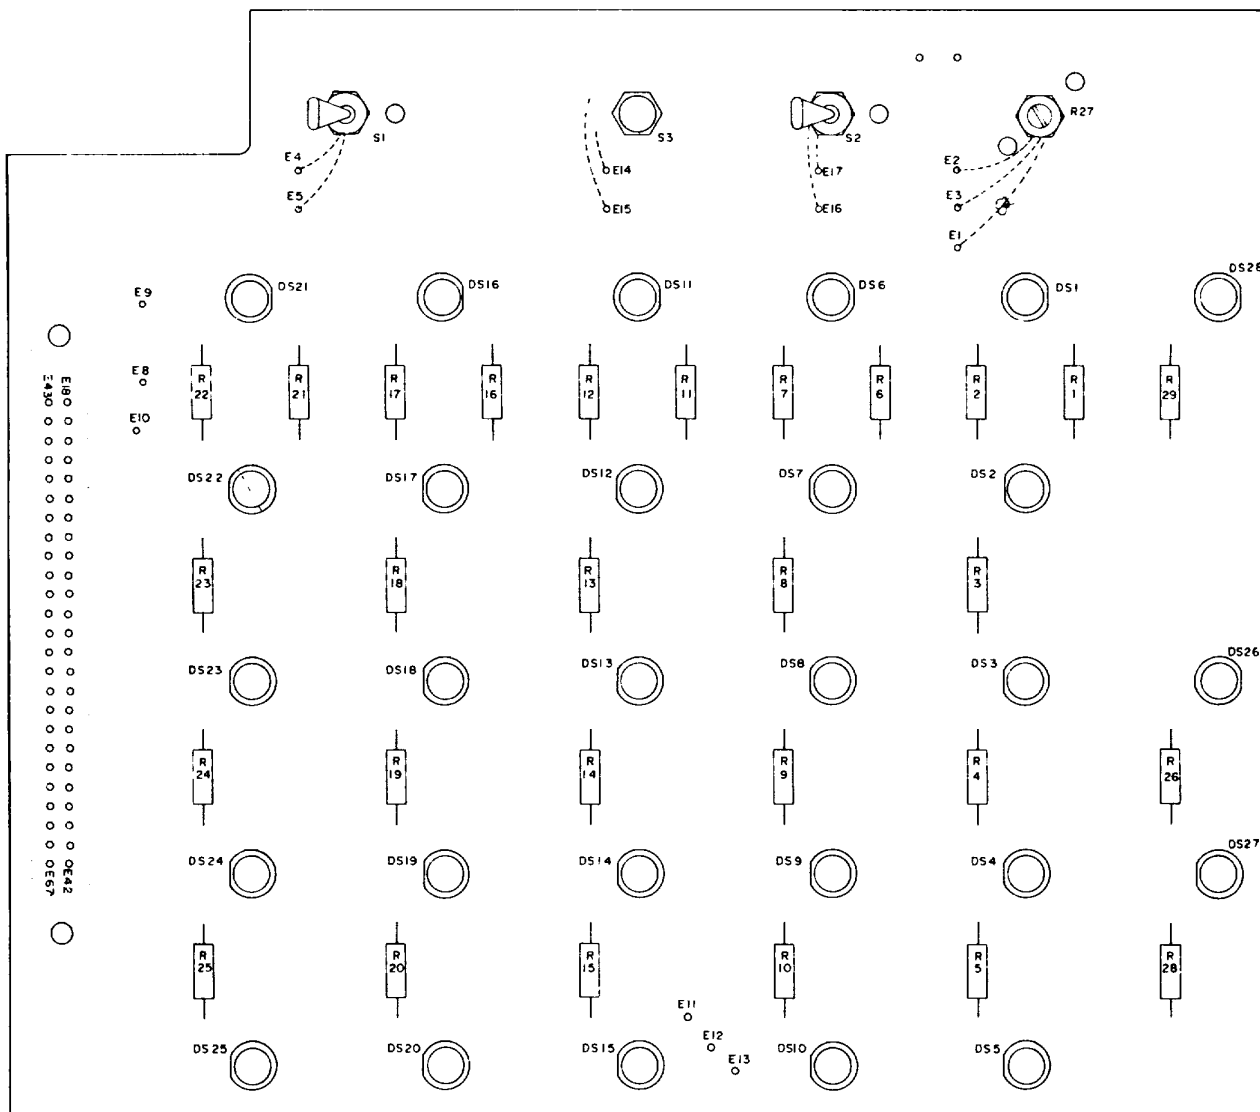

Figure 8-2. LED Display Circuit Card Assembly, 4A1 Parts Location Diagram
b. LED Display Circuit Card Assembly (4A1) Disassembly. This circuit card assembly should be removed only when servicing or component replacement is required. To remove this circuit card assembly, perform the following steps. Further disassembly should be limited to removal of parts for repair or replacement Refer to figure 8-2 for location of component to be replaced.
- (1) Remove four screws, washers and electrical spacers holding the LED Display circuit card assembly to the front panel.
- (2) Remove and tag the 44 wire leads on the ribbon cable from the LED Display circuit card assembly.
- (3) Disconnect and remove VOLUME, ON/OFF and ALARM SILENCE switches from front panel.
- (4) Remove the LED Display circuit card assembly from the chassis assembly.